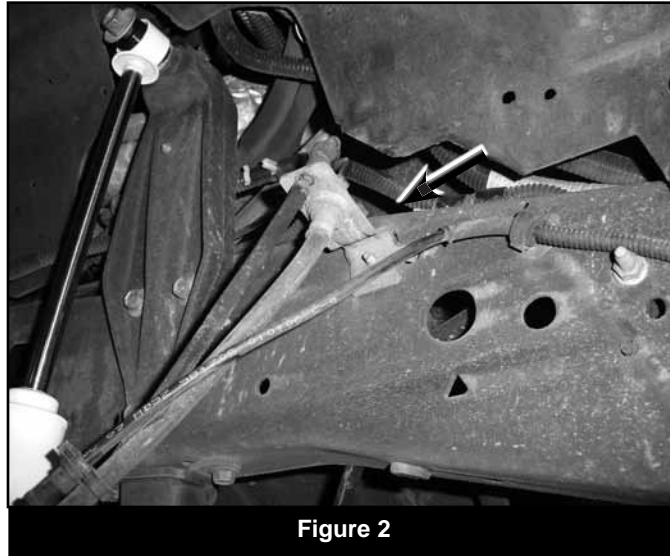

Figure 2
8. Locate the brake line mount bracket on the frame. Using pliers, bend the bracket down about 60 degrees away from the frame (Fig 2). After the bracket is reformed, remove the mounting bolt and remove the bracket from the frame. Save hardware.